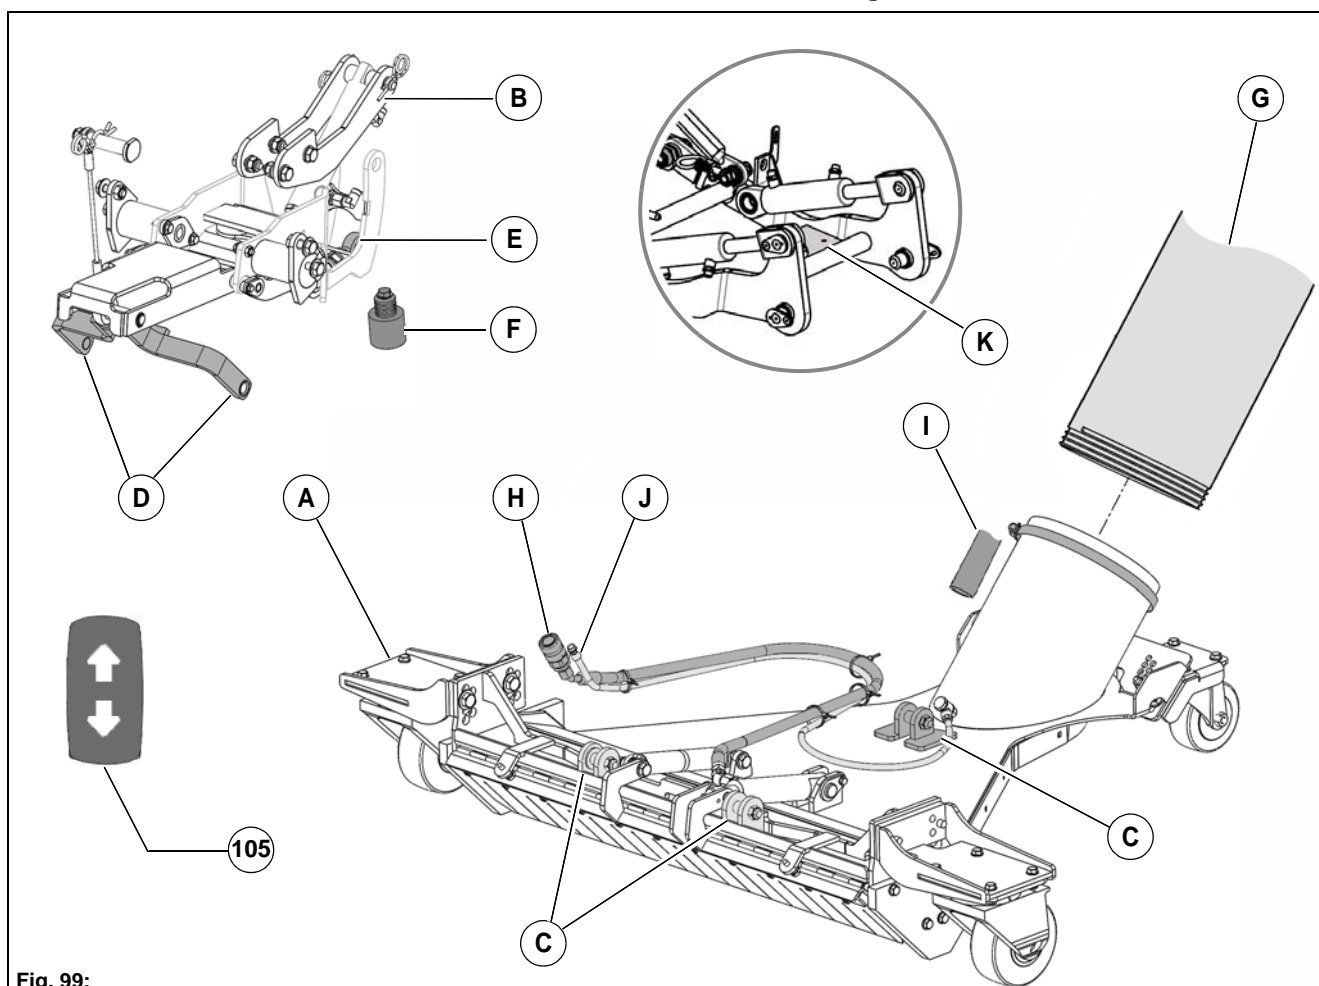

Fig. 99:
3. Push the suction mouth **Fig. 99-A** centrally under the lift system **Fig. 99-B**.
4. Align the jacking points **Fig. 99-C** of the suction mouth to the arm **Fig. 99-D** and the swivel head **Fig. 99-E** of the lift system.
6. Attach the rubber buffers **Fig. 99-F** to the connecting plate of the front tool carrier **Fig. 99-K**.
- Slightly grease the suction hose **Fig. 99-G** and attach it to the suction duct.
- Connect the hydraulic hose **Fig. 99-H** for the coarse material flap.
- Attach the circulating water hose **Fig. 99-I** to the suction duct.
- Attach the fresh water hose **Fig. 99-J** to the suction duct.